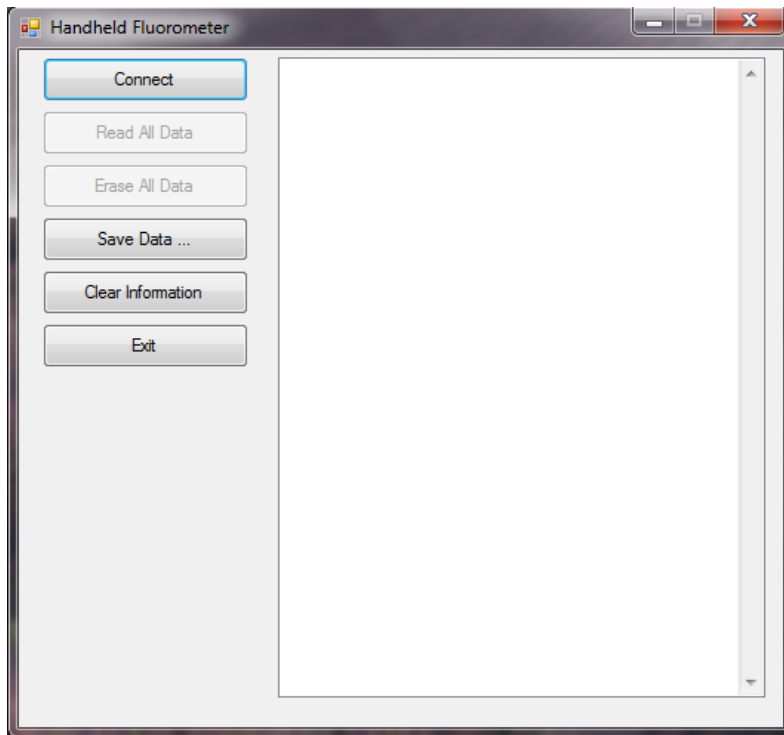

Figure 17. Fluorometer Data Manager window.
- a. Double click “**Data Manager - User (Active)**” shortcut icon on Desktop to bring up “**Handheld Fluorometer Data Manager**” window, as shown in Figure 17.